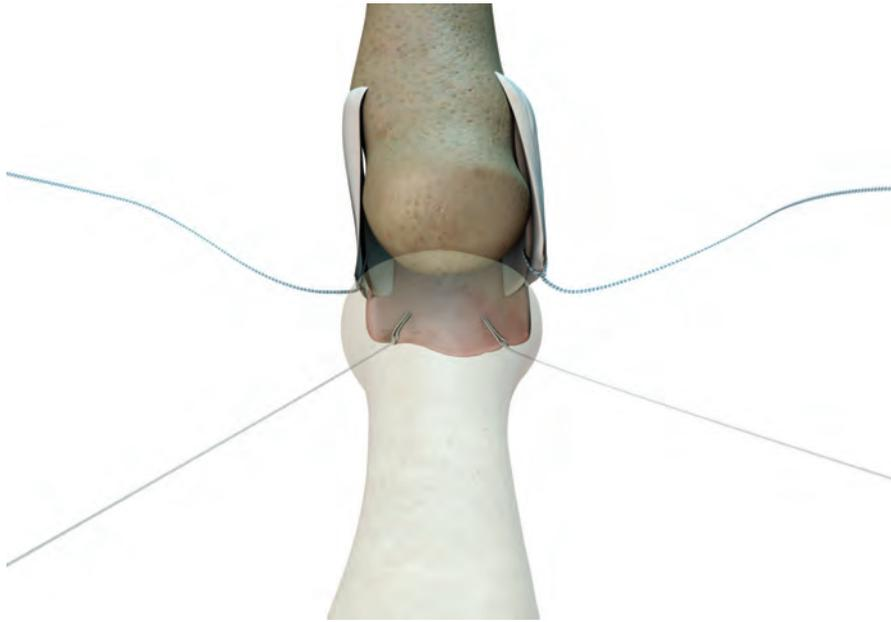

Figure 13
13. Perform steps 2–12 to place each suture on the medial and lateral aspects of the plantar plate and both collateral ligaments (4 sutures total) (Figure 13).